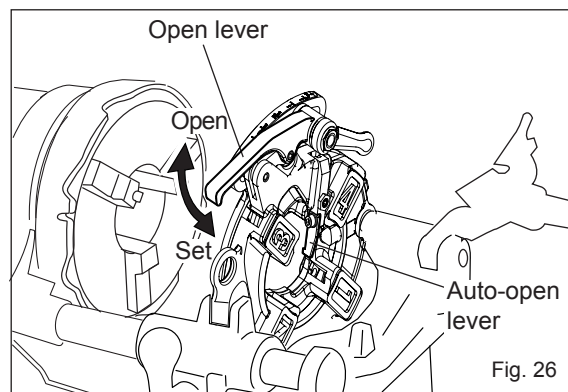

Fig. 26
- Press down on the Open lever to put it into the 'Set' position. (Fig. 26)